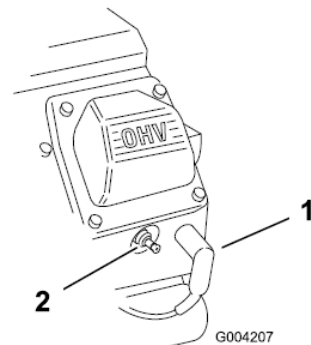

Figure 23
1. Pull the wires off spark plugs (Figure 23).
3. Push the wires onto the spark plugs (Figure 23).